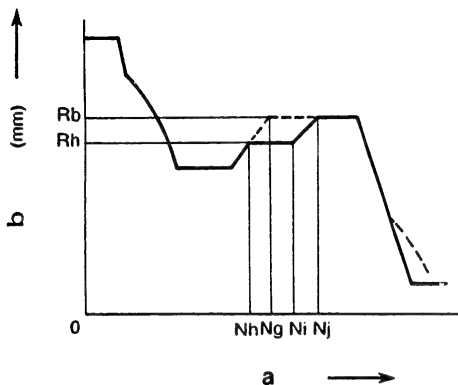

Fig. 170
8. If the No. 2 torque spring is installed, screw it (340) into the guide screw (341).
9. Adjust the No. 2 torque control spring capsule so that the control rod is at the "Rh" position at a pump speed of "Ng rpm" and then fix it with the locknut (332) (refer to Figs. 170 and 171).
11. Confirm the point where the No. 1 torque control spring stops taking effect ("Nh" rpm) and the points where the No. 2 torque control spring starts ("Ni" rpm) and stops ("Nj" rpm) taking effect (refer to Fig. 170).